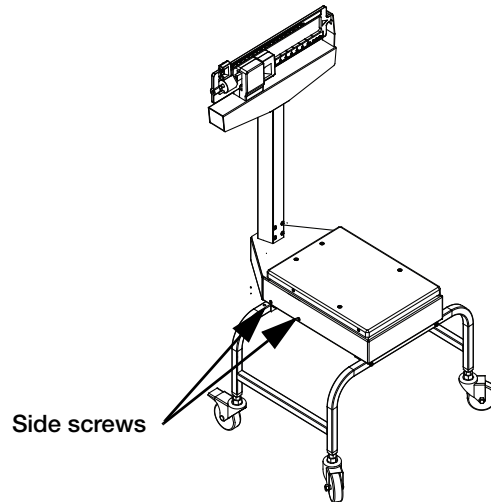

Figure 2-8. Transport Handle Installation
1. Remove the four side screws (two on each side). See Figure 2-8. Retain screws for reassembly.